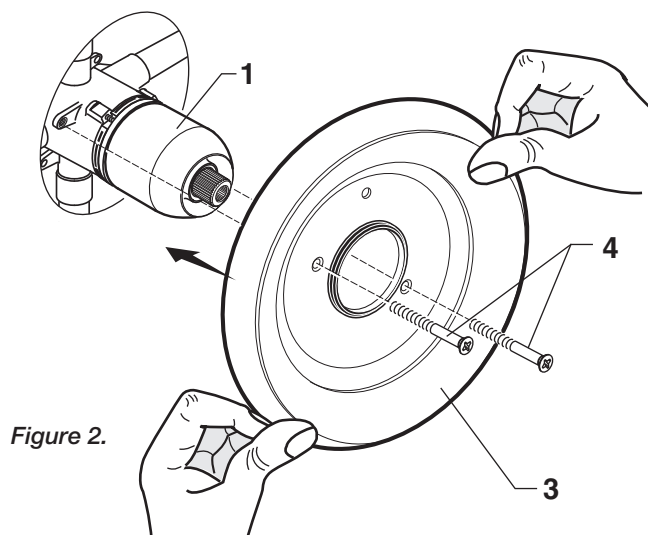

Figure 2.
- **Figure 2.** Push ESCUTCHEON (3) onto CAP (1). Align mounting holes in ESCUTCHEON (3) with valve body. Attach to valve body with LONG SCREWS (4).